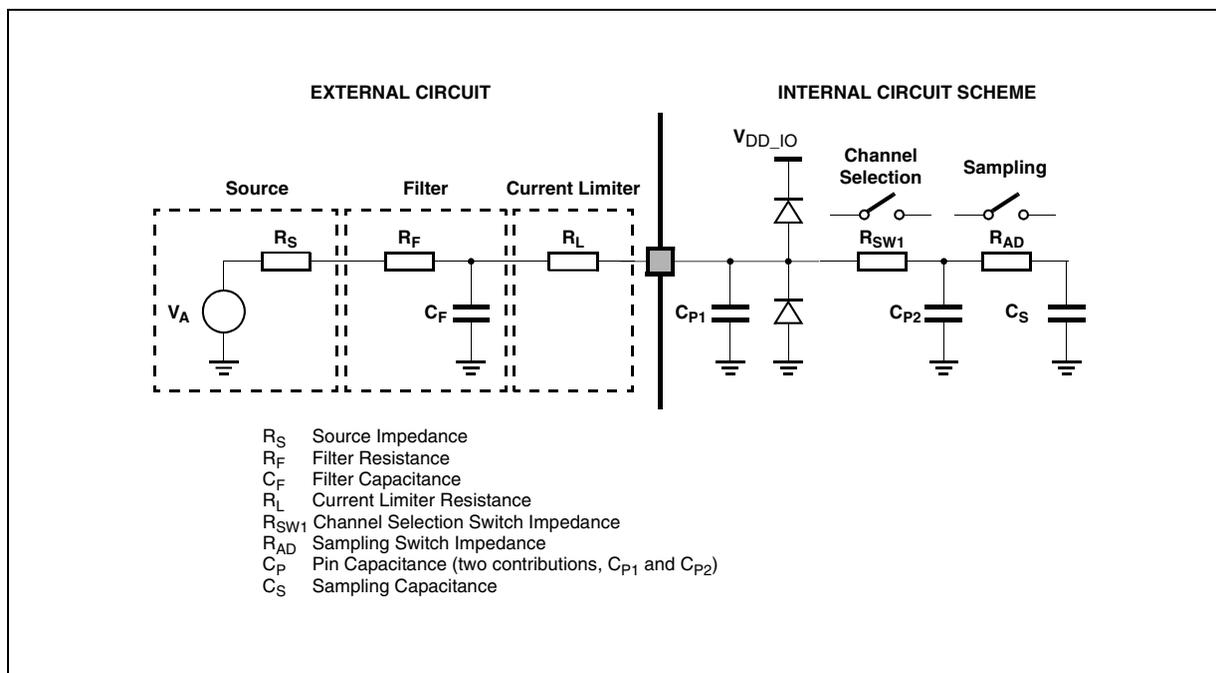

Figure 5. Input equivalent circuit
6. See Figure 5.
5. See Figure 5